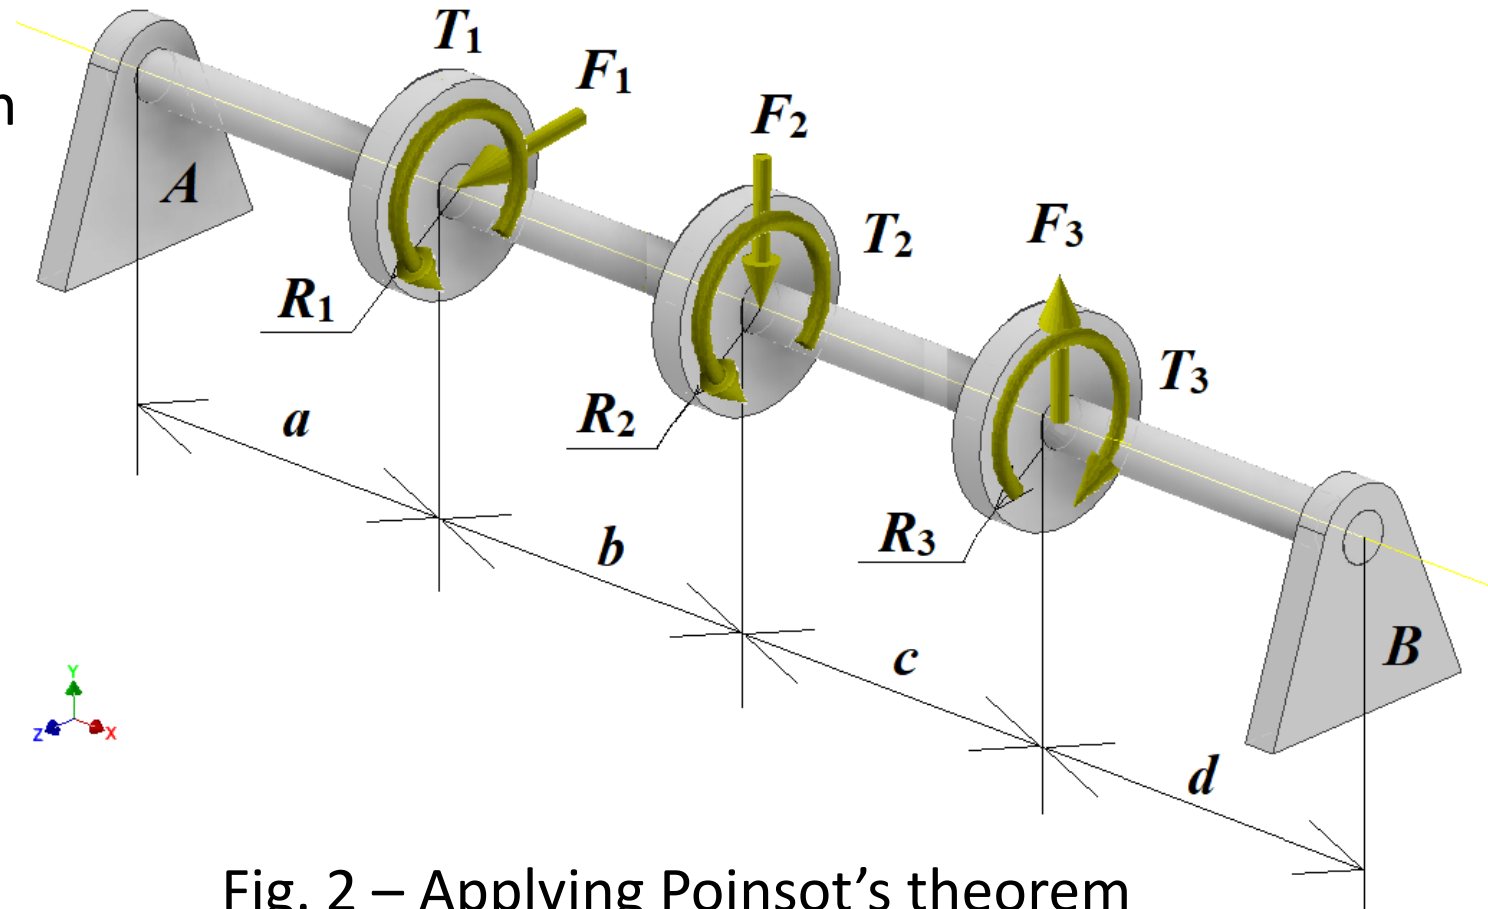

Fig. 2 – Applying Poinso's theorem
1. Apply Poinso's theorem by replacing each tangential force by an axial force and a couple of forces (torque) (**Fig. 2**).